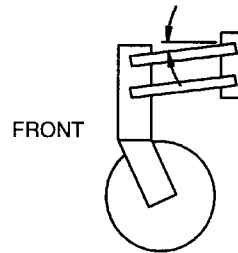

Figure 19 Stabilizer Strut
2. Adjust up and down so the parallel linkage is low in the front in operating position. See Figure 19. This allows maximum upward travel when operating. Pin #10 limits the downward travel of the wheel for road transport. This may be left installed when operating.